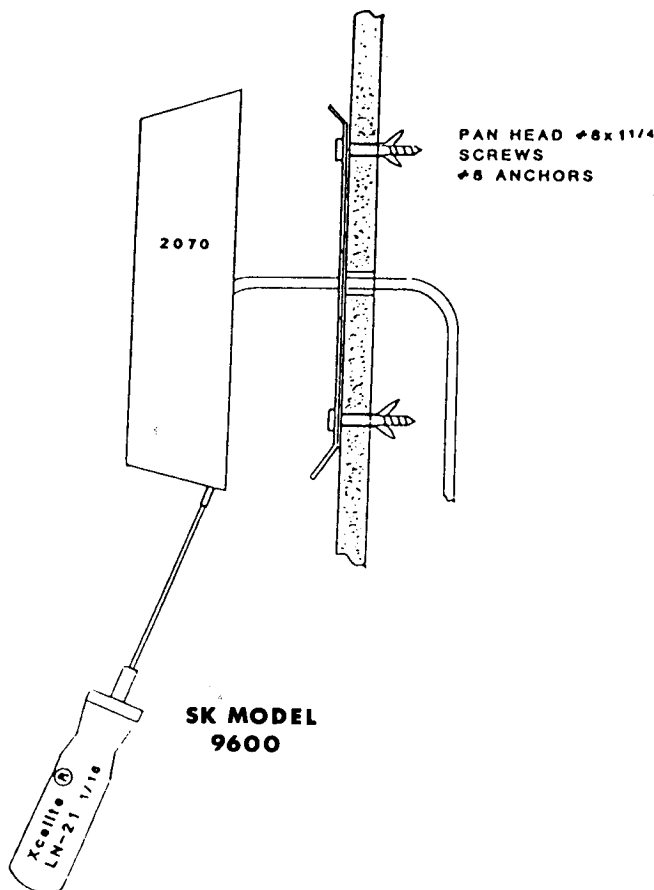

FIGURE 14
The Model 2070, 2069 or 2068 keystation attaches to the supplied bracket which may be mounted to a double-gang electrical box or directly to a wall surface using the appropriate fasteners. Mount the bracket with the longer tabs down. Pull the wires, from the 2730 through the center opening of the bracket and splice the wires to the supplied pig-tail cable using type B low voltage wire connectors. Slip the 2070 over the bracket's upper tabs and carefully rotate the 2070 down until the entire keystation is flush with the wall. Using a 1/16" Hex Key wrench (Xcelite Model LN-21 or equivalent), tighten the two set screws on the bottom of the 2070 until it is secured to the bracket. Refer to Figure 14 for this procedure. NOTE: A maximum of four (4) 2070 keystations may be used per 2730 control panel under normal conditions. Two additional 2070's can be used if their speakers are disabled (cut speaker wire).